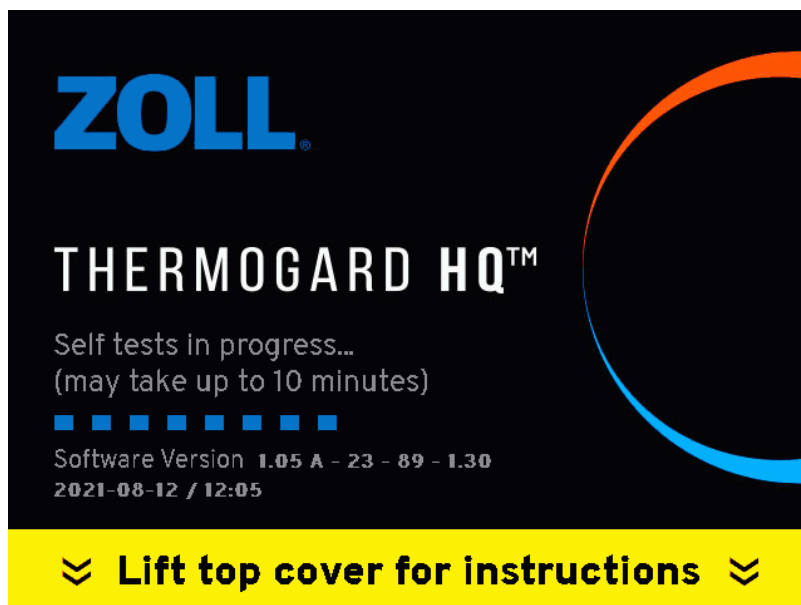

Figure 4.30. Self-Test screen
**Note.** The software version shown in Figure 4.30 is shown for reference only; the current product may use a different software version.
14. If the console has not yet finished its self tests, the Self-Test screen is displayed (Figure 4.30).